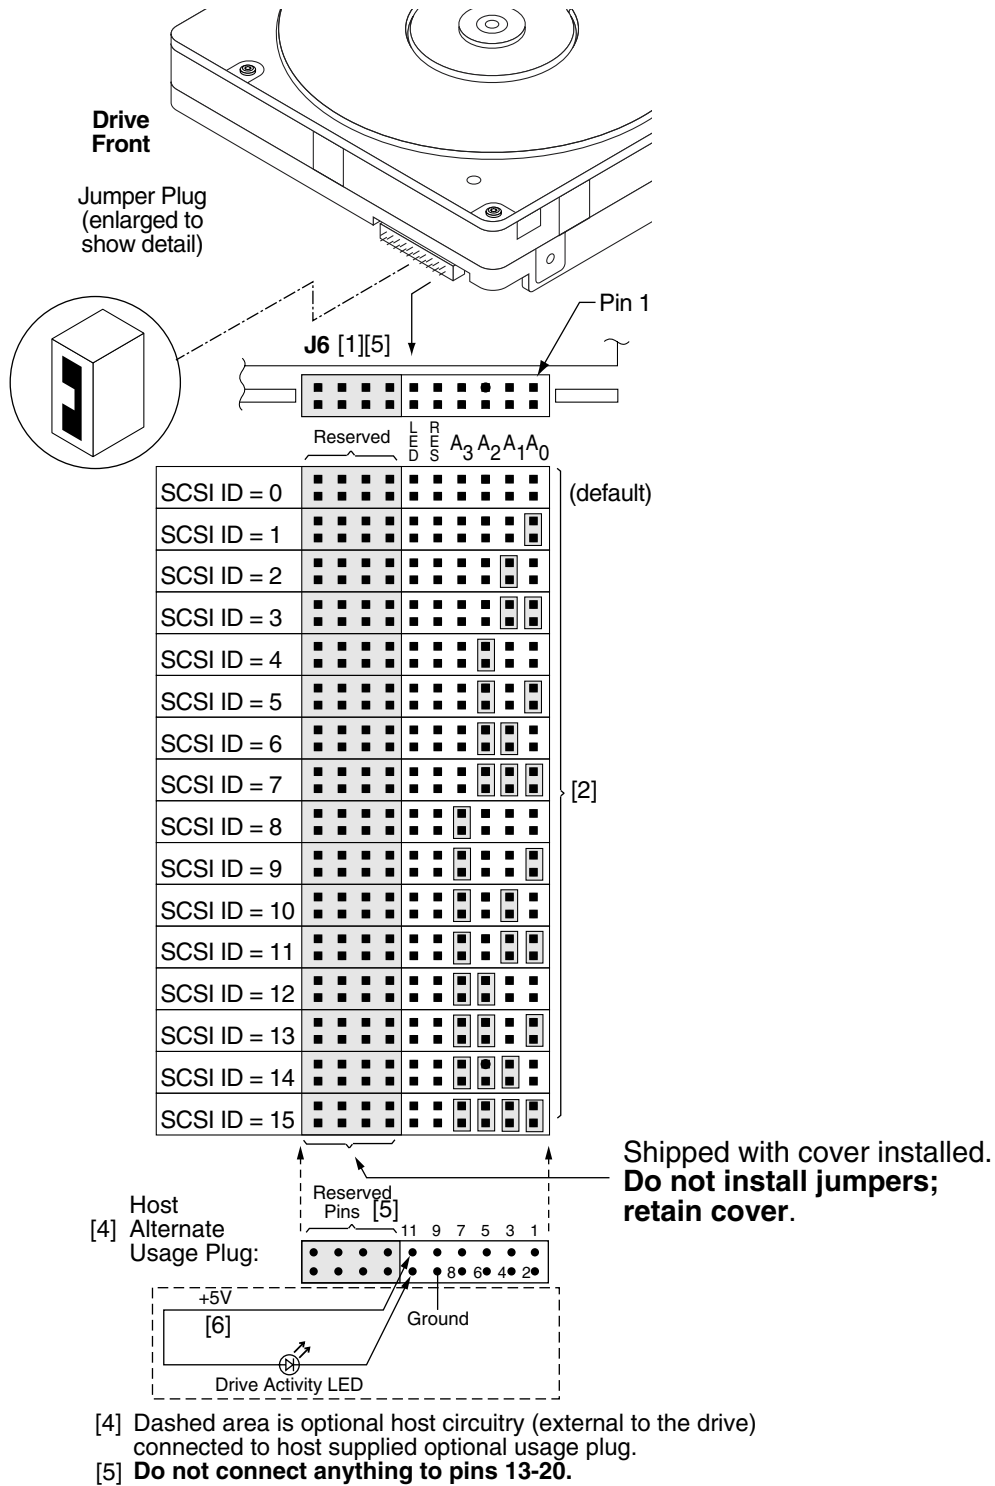
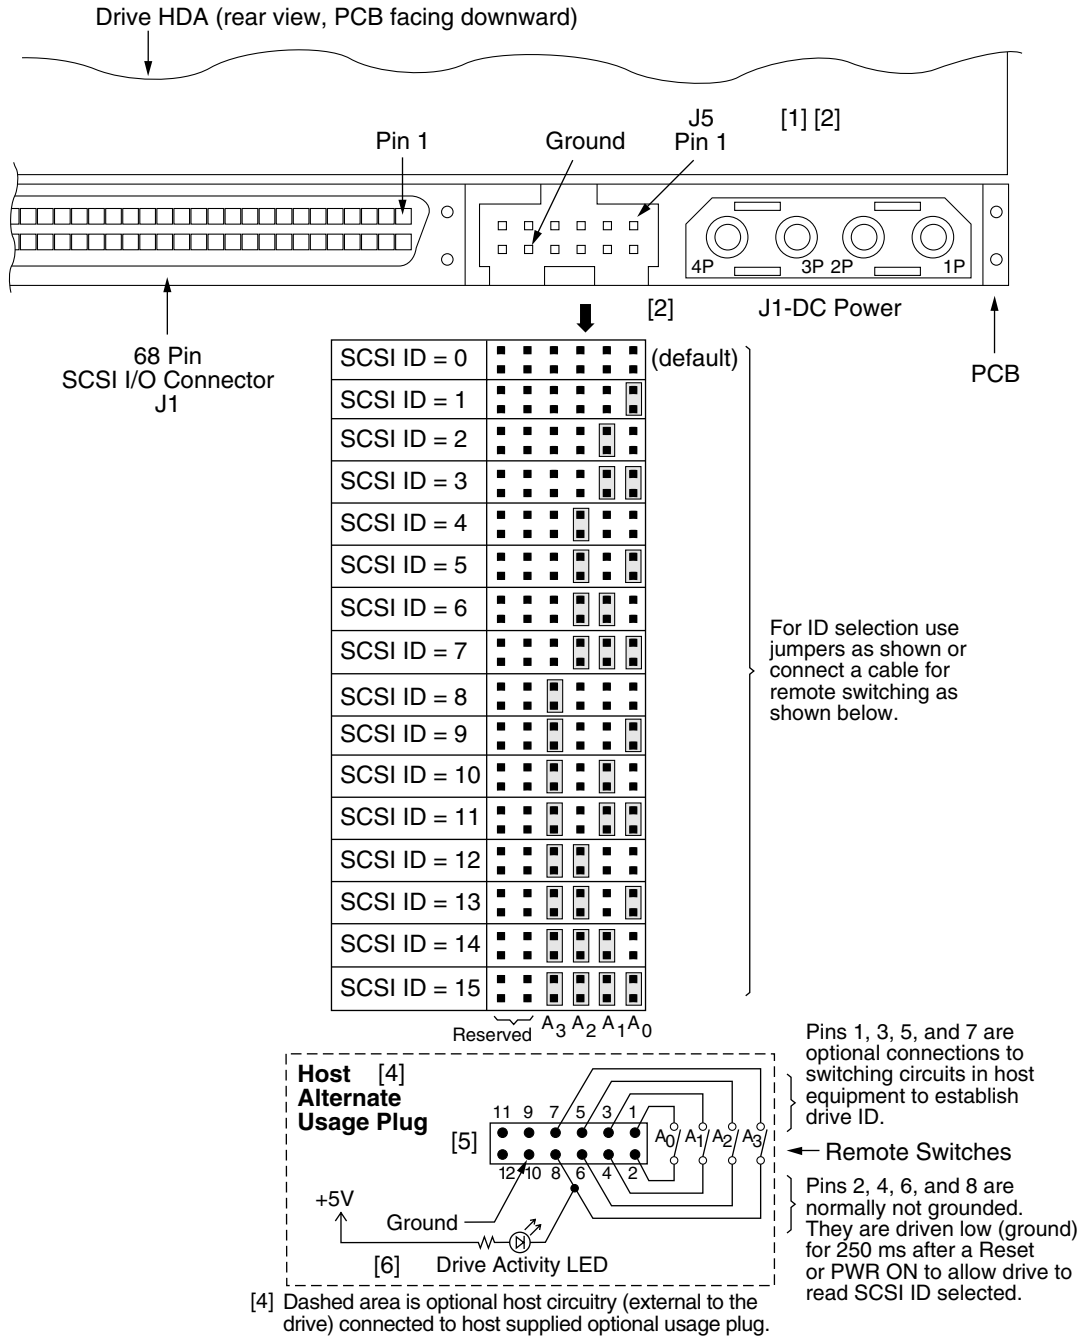
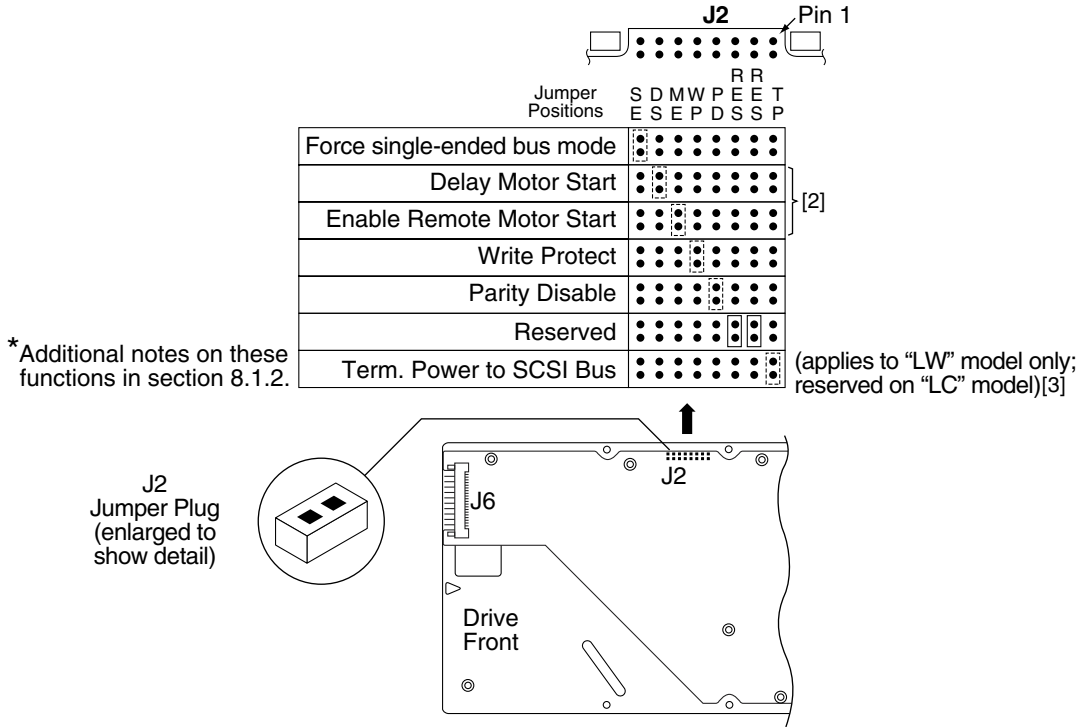

Figure 13. J6 jumper header
Figure 14. J5 jumper header (on LW model only)
Figure 15. J2 option select header
For option jumper locations and definitions refer to Figures 13, 14, and 15. Drive default mode parameters are not normally needed for installation. Refer to Section 9.3.2 for default mode parameters if they are needed.
Figures 13 and 14 show views of the drive ID select jumper connectors. Figure 15 shows the option select jumper connector for all models. Figure 13 shows the drive's J5-Auxiliary jumper connector. Both J5-Auxiliary and J6 have pins for selecting drive ID and for connecting the remote LED cable. Only one or the other should be used, although using both at the same time would not damage the drive. The notes following the figures describe the functions of the various jumper positions on the connectors J2, J5-Auxiliary and J6. See your local sales representative for suggested part number. A bag with the two jumper plug types is shipped with the standard OEM drives.
8.1.1 Notes for figures 13, 14, and 15.
- [6] Connect an external Drive Activity LED to J6 pins 11 and 12 (see Figure 13), or to J5 pin 8 (see Figure 14) and the drives +5V power source, through an appropriately sized current limiting resistor. The drive provides an internal 150 ohm current limiting resistor for the J6 connection.